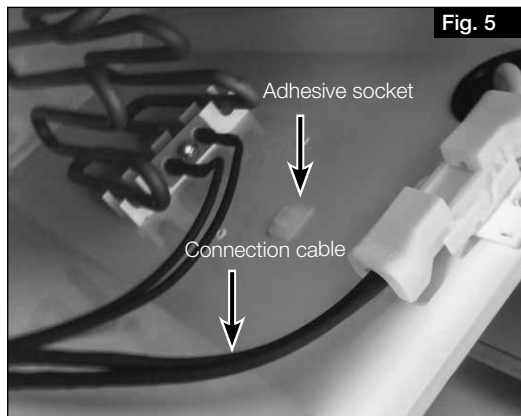

Fig. 5
6. Stick the provided adhesive sockets to the unit wall (see Fig. 5)